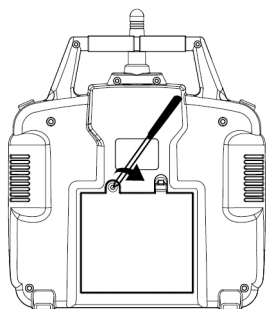

Figure 1
1. Use a screwdriver to remove the screw on the back of transmitter, then open the battery cover (Figure 1).